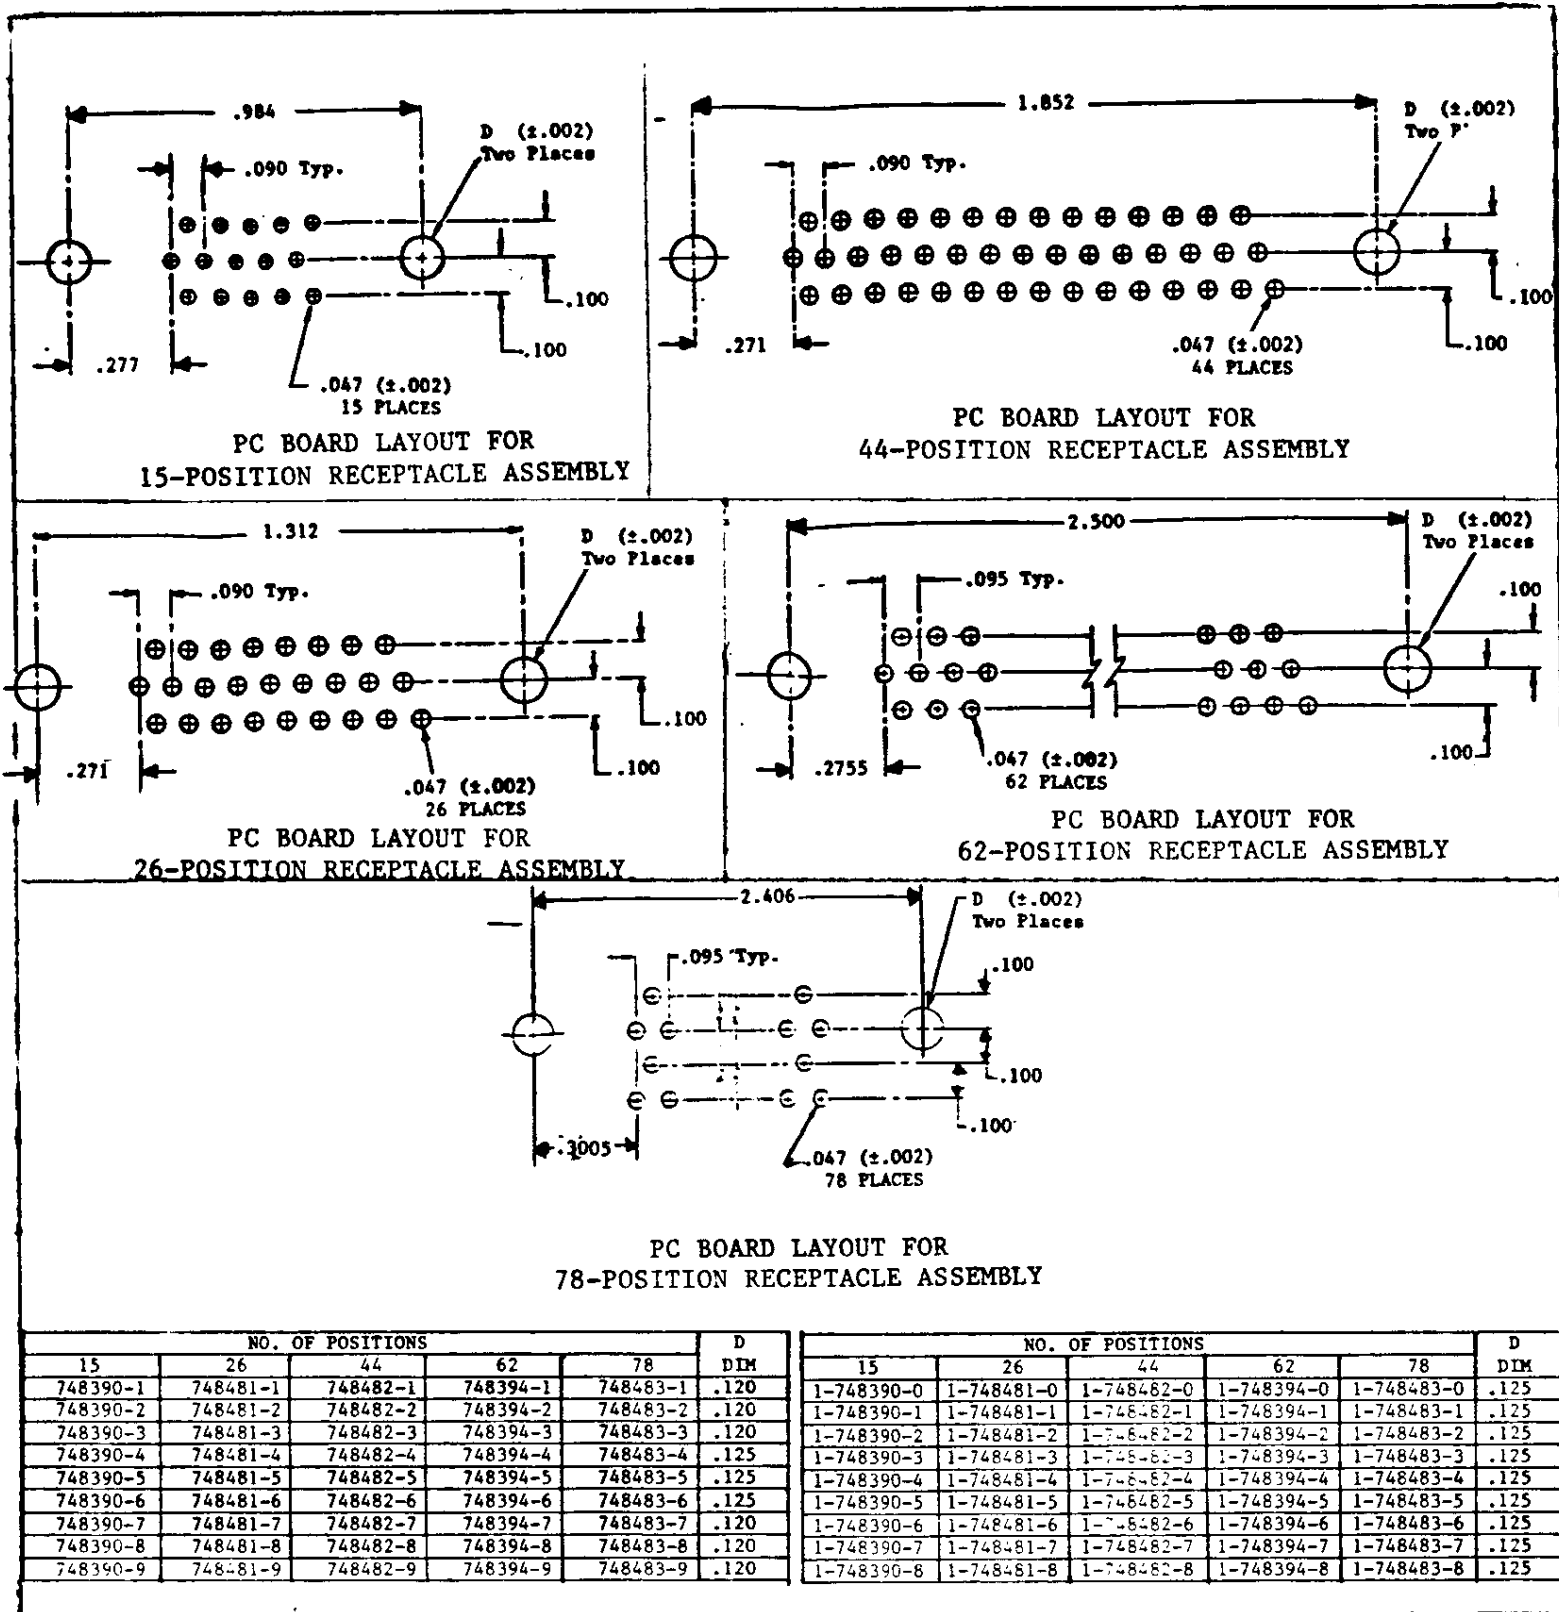

Fig. 3
NOTES: SEE FIGURE 3 FOR D VALUES; 15-POSITION AMPLIMITE RECEPTACLE ASSEMBLY SHOWN ONLY TO ILLUSTRATE FEATURES.
3. PC BOARD LAYOUTS (Figure 3)
The various pc board layouts for each receptacle assembly are shown in Figure 3.